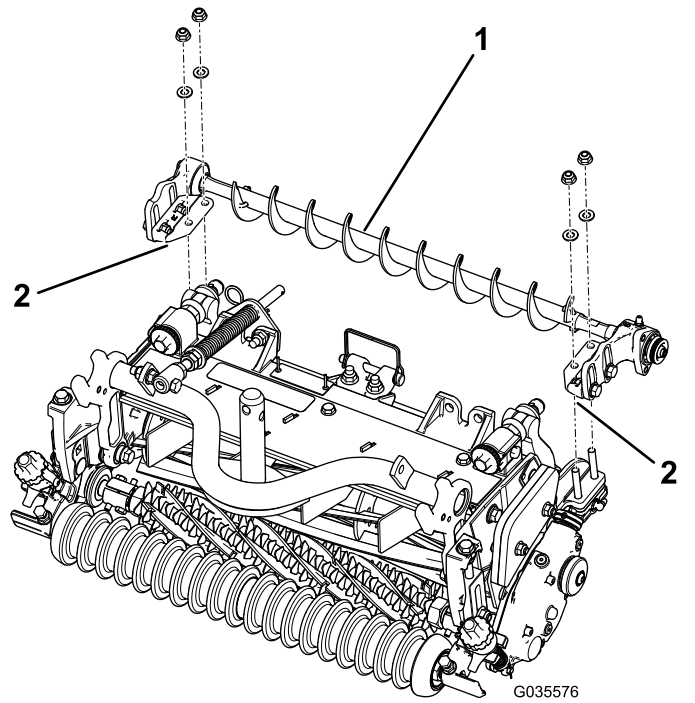

Figure 5
2. Position the left or right roller-brush-assembly mounting brackets onto the roller-bracket bolts (Figure 5).